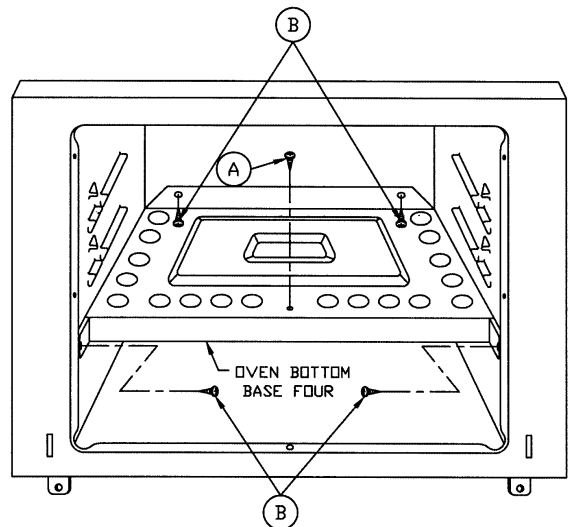

Figure 7
To Remove: When cool, remove the oven rack. Remove the one (1) screw and nut that secures the oven burner assembly to the oven bottom (A Figure 7). Remove the four (4) screws that secure oven bottom to the oven sides and back (B Figure 7). Hold oven bottom and slide it out of the oven.
To Replace: Position oven bottom rear flange to align with the two holes in back of the oven. Secure with (2) screws. Secure oven bottom to oven sides with the two (2) screws (see B Figure 7).